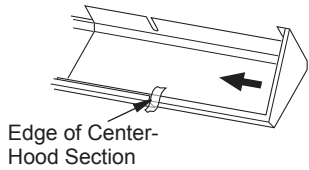

Figure 4 - Adjust Outer-Hood Section
- Slide the adjustable outer-hood sections into the center section. Stop when edge of center-hood section is even with tape (see Figure 4).